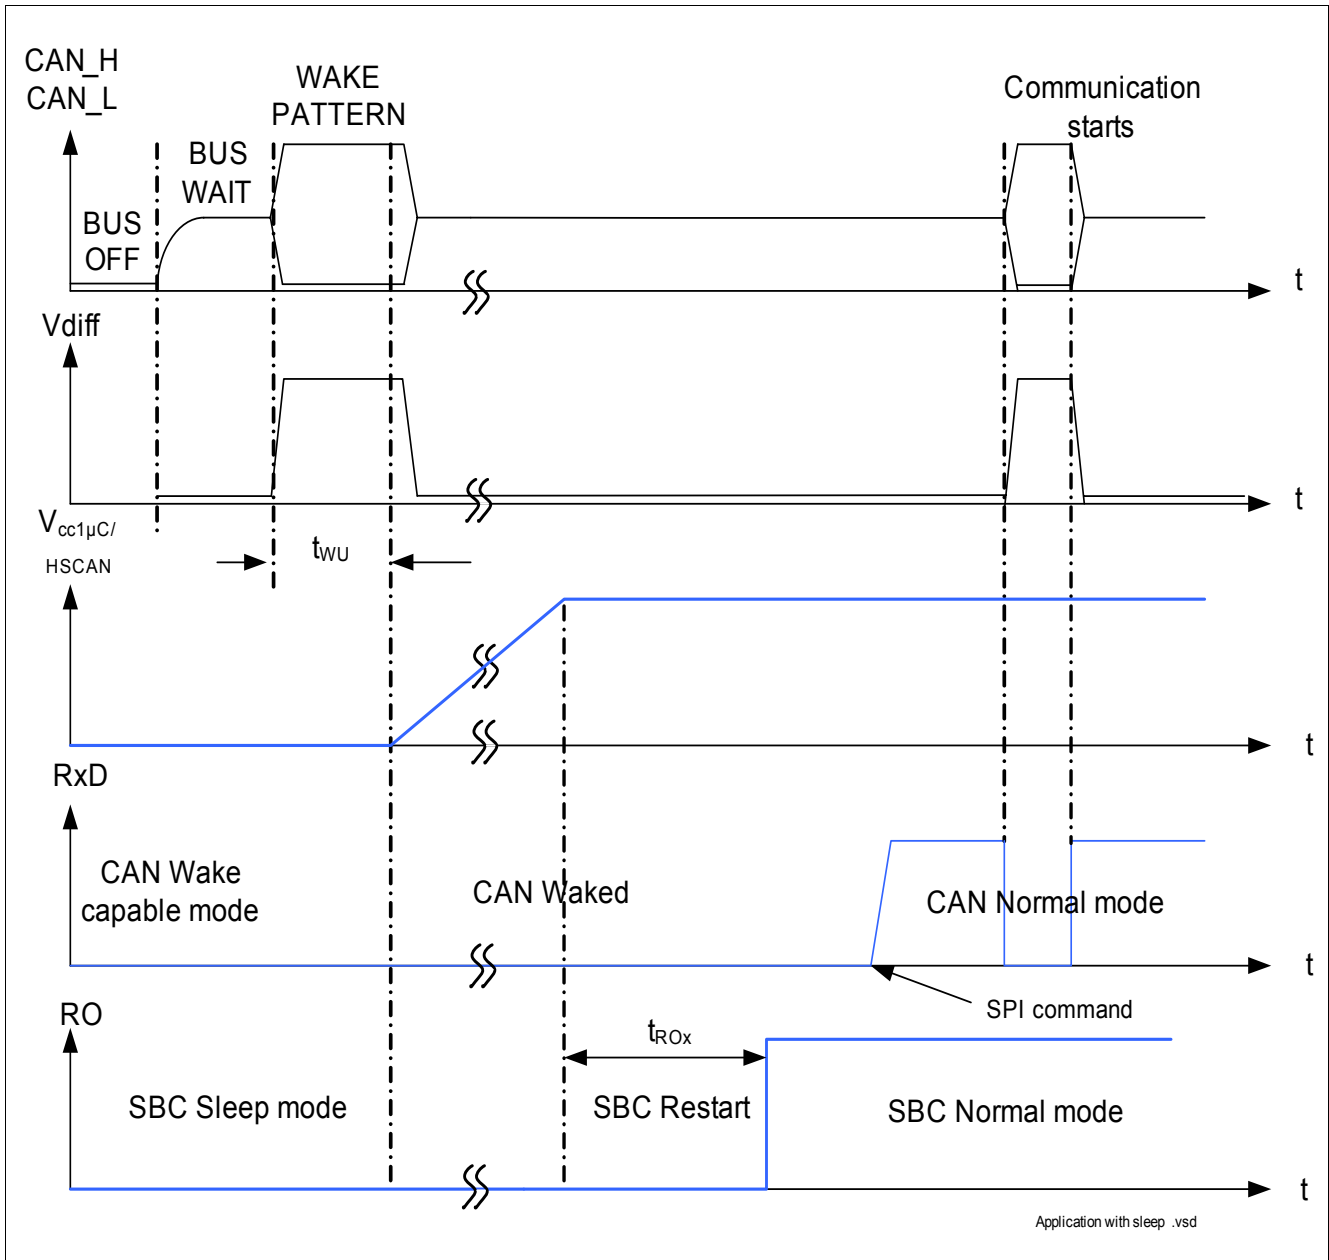

Figure 11 Timing during Transition from Sleep to Normal Mode
Refer to Figure 11 for a description of the matching of the transceiver modes with the SBC mode.
Wake-up is possible via a CAN message (filtering time $t > t_{wU}$), it automatically transfers the SBC into the SBC Restart Mode and from there to Normal Mode the RxD pins in set to LOW, see Figure 11. The microcontroller is able to detect the low signal on RxD and to read the wake source out of the "Wake Register Interrupt" register (000) via SPI. No Interrupt is generated when coming out of Sleep Mode.
In SBC Sleep Mode, a wake-up on the CAN cell will set the SBC to Restart Mode automatically if the CAN Wake Capable Mode of the SBC is selected via SPI. **Figure 11** shows the typical timing.